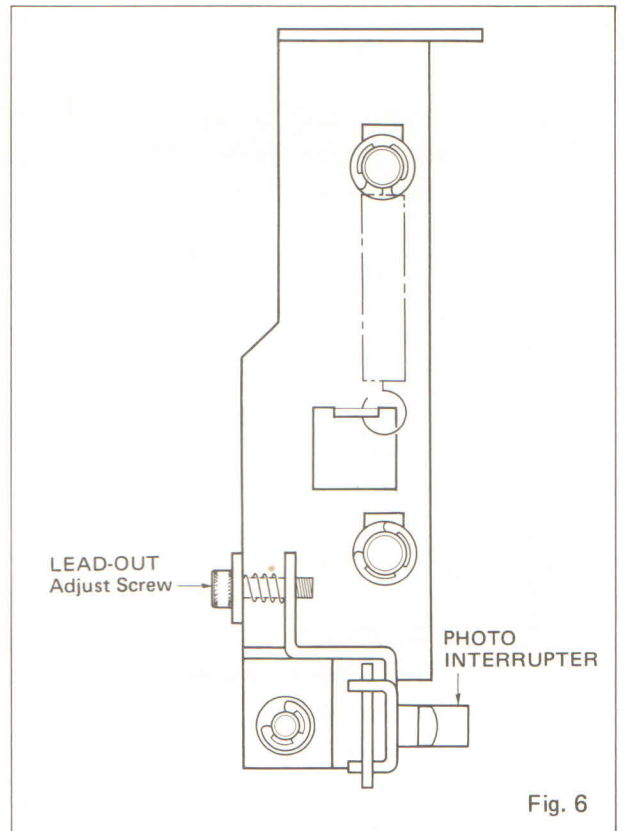

Fig. 6
- (1) Turn Lead-Out Adjust Screw to "Lead-Out" sooner; turn counterclockwise to lead-out later. (Fig. 6)